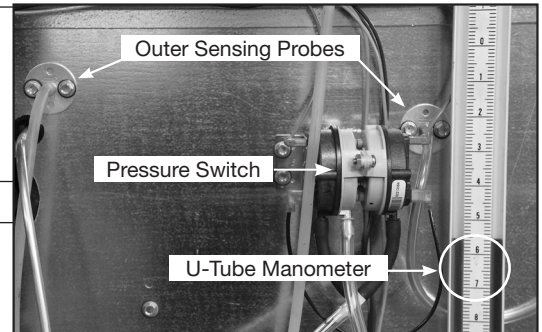

Fig. 1 Measuring the Pressure Drop
- Check burner pressure differential. (**Fig. 1**)